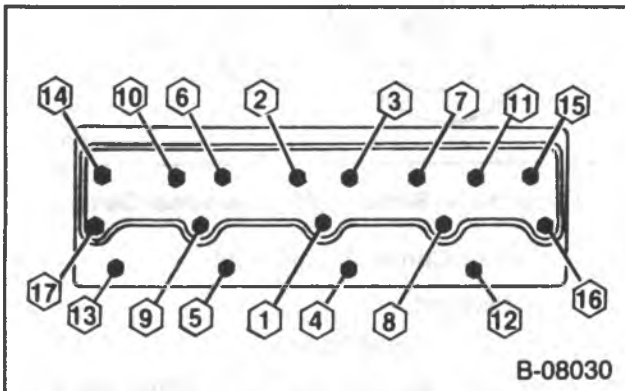

Figure 11 — Head Bolt Tightening Sequence
Install or Connect (Figure 11)
- Using the sequence shown in figure 11, tighten all bolts to 25 N·m (20 ft. lbs.).